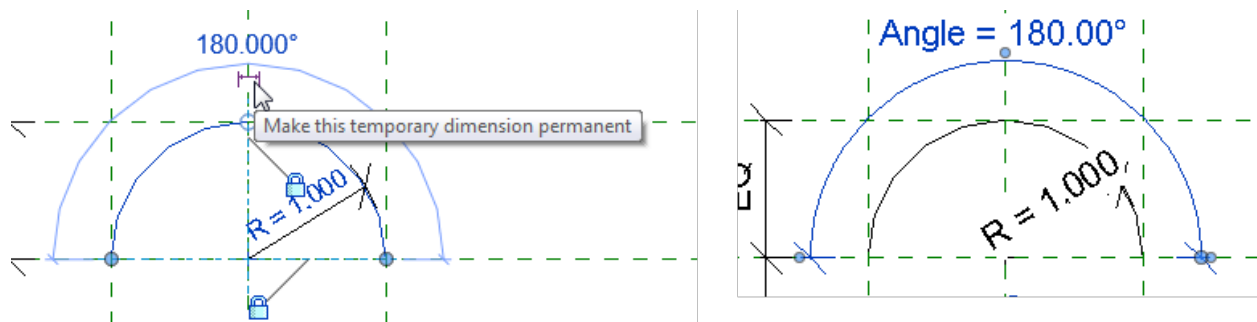

Figure 15—Add an angular parameter
15. Select this new dimension and label it with a new parameter. Flex (see Figure 15).